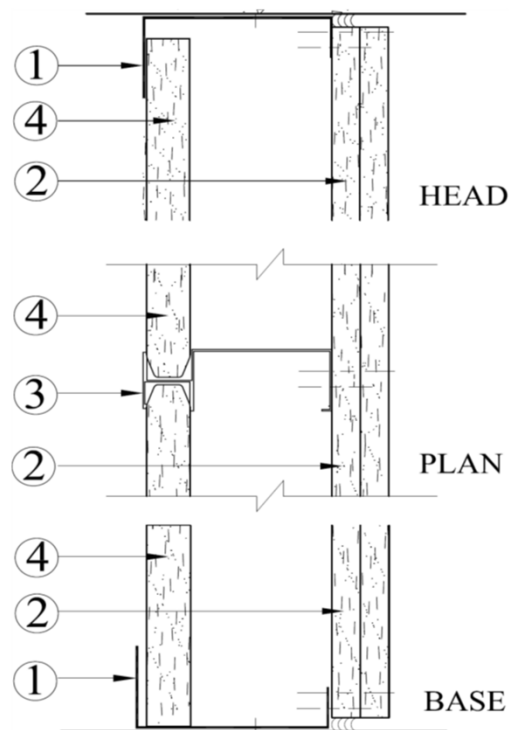

Figure 2 - Two Hour Cavity Shaft Wall (Non-Load Bearing)
Two-Hour Cavity Shaft Wall (Non-Load Bearing), See Figure 2
1. See Figure 2 and 3 for vertical stud installation details within shaft/stair wall.